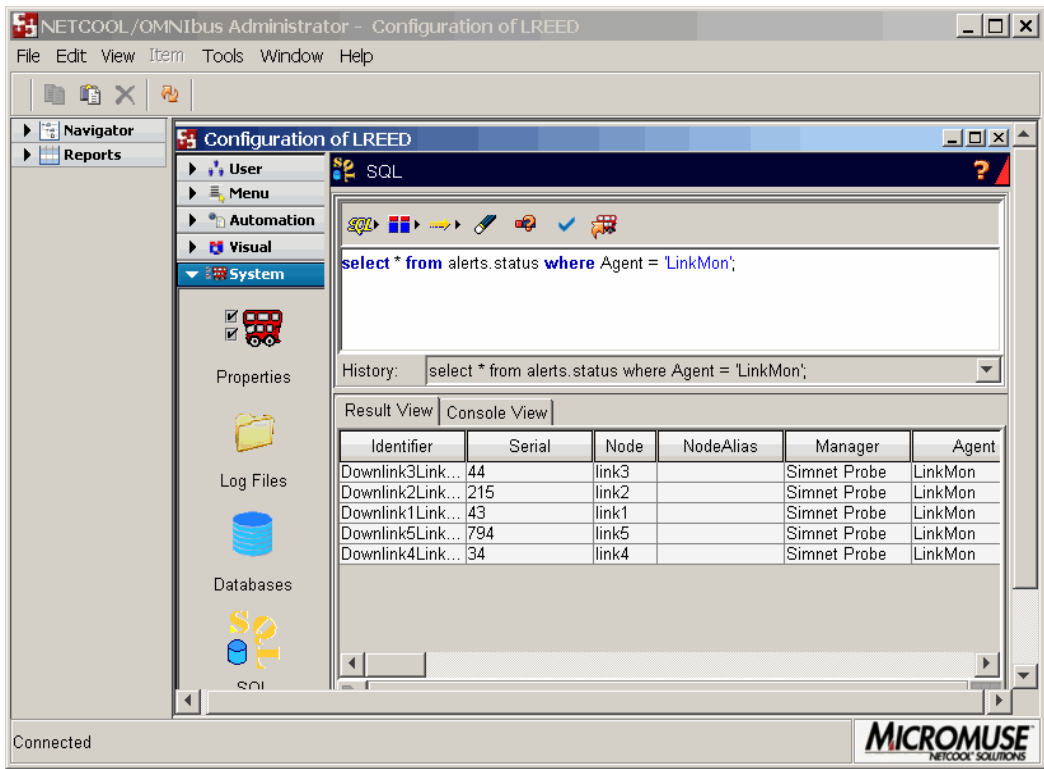

Figure 28: SQL Window
- 2. Click the **SQL** icon. The **SQL** window is displayed, as shown in Figure 28.